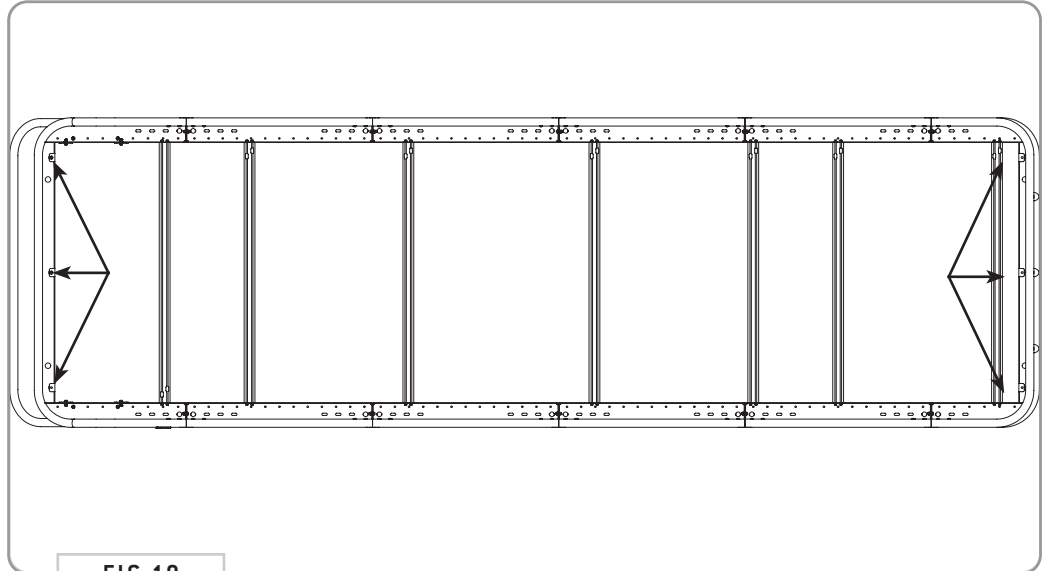

FIG 19
**8.1 Attach Clip Nuts to Baskets:** Install the **Clip Nuts** to the **Front and Rear Basket** locations as shown in **FIG 19**.